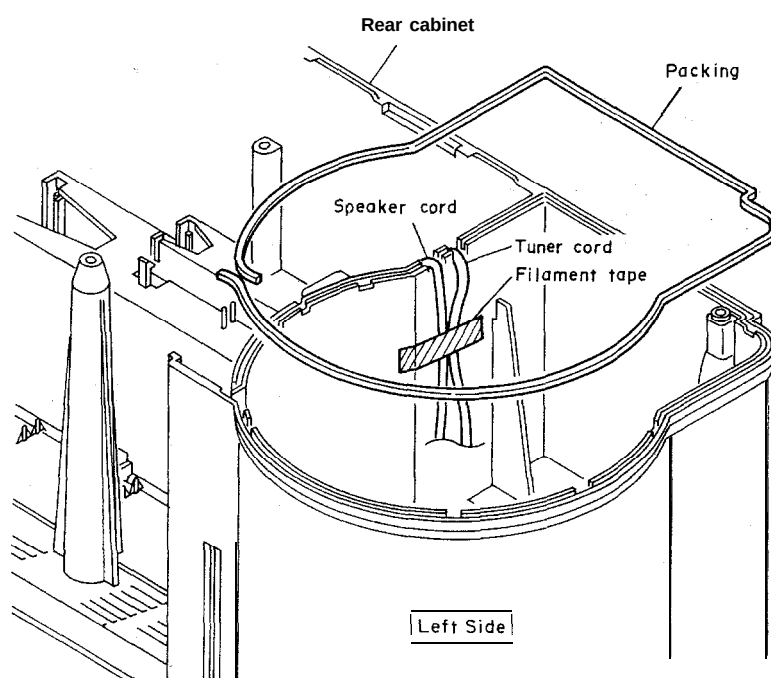

Figure 15-2
*1 When assembling the front panel, carefully treat the wires of speaker box part (at the place where the front panel is engaged with the rear cabinet) so that wire is not broken. (See Fig. 15-2.)